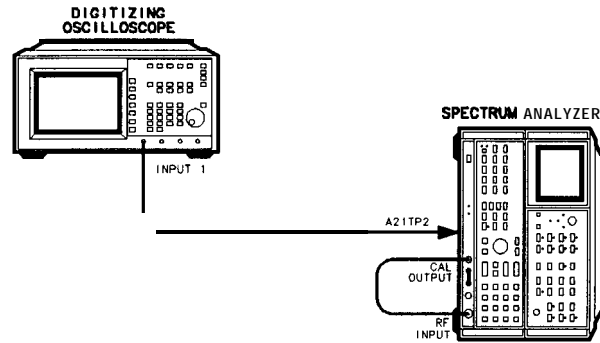

Figure 3-63.
30. Connect front-panel CAL OUTPUT to RF INPUT as shown in Figure 3-63.